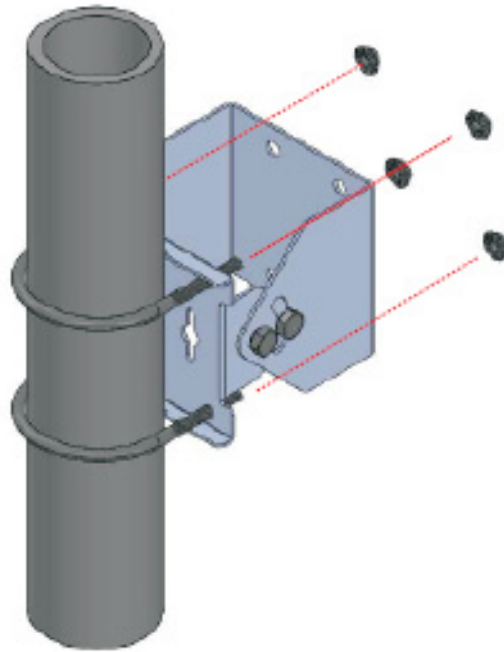

Figure 28. Attaching the Pole-Mount Bracket to the Pole
2. Attach the pole mount brackets to the pole with the two U-bolts. See Figure 28 on page 60.
Figure 28 shows how to attach the pole mount bracket to a vertical pole as an example. You can also install the bracket to a horizontal pole.